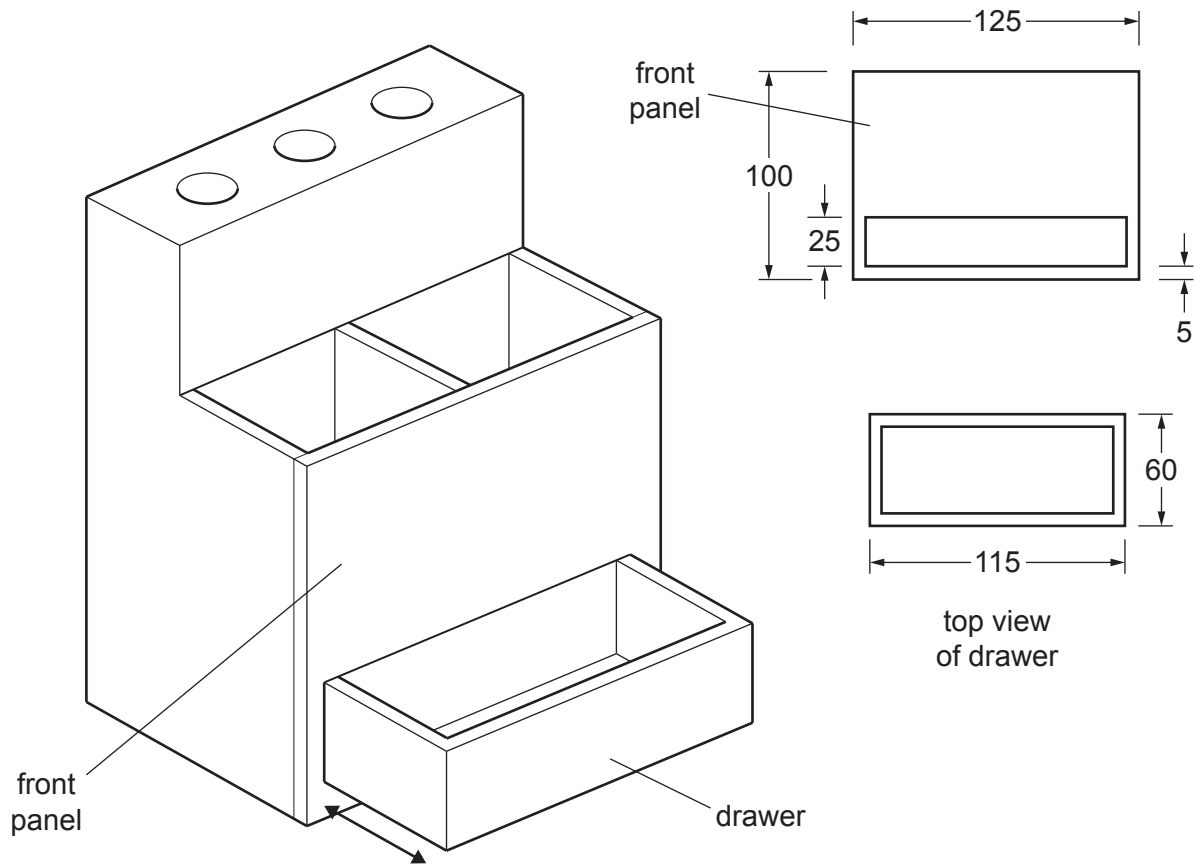

Fig. 2.1
- 2 Fig. 2.1 gives details of a wooden desk tidy that is commonly used in an office or school. The desk tidy is to be made in a school workshop.